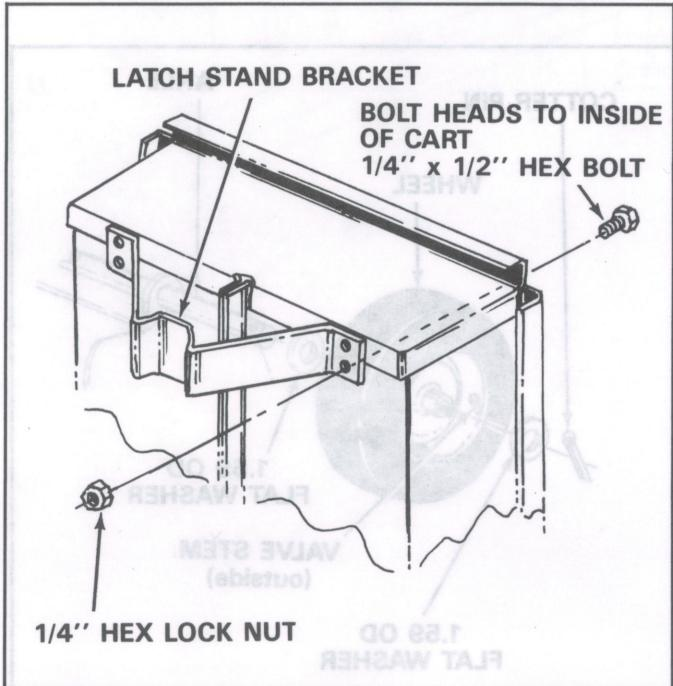

FIGURE 7
12. Assemble latch stand bracket using four $1/4'' \times 1/2''$ hex bolts and $1/4''$ hex lock nuts. See figure 7.